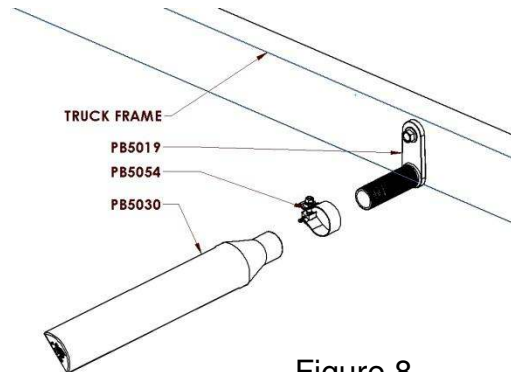

Figure 8
A. Bolt the remaining PB5019 swivel brackets to the truck frame as shown in Figure 8 and tighten the nut so the brackets suit the desired position of the fender. **Recommended torque for the 5/8" X 4-1/2" bolts is 160-170 ft-lbs.**